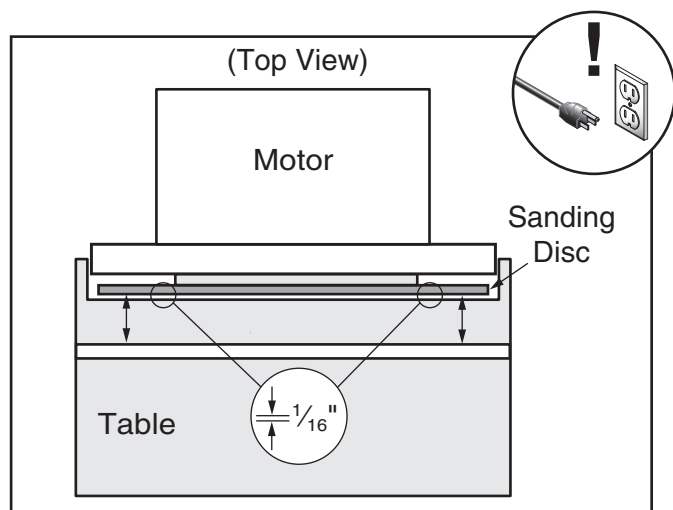

Figure 22. Example of table gap parallel with sanding disc.
2. On disc sander table, loosen (2) knobs that secure table to disc sander guard.
3. With sandpaper installed on disc, adjust table so there is a $\frac{1}{16}$ " maximum gap (see **Figure 22**) between sanding disc and edge of table along its full length, then tighten knobs.